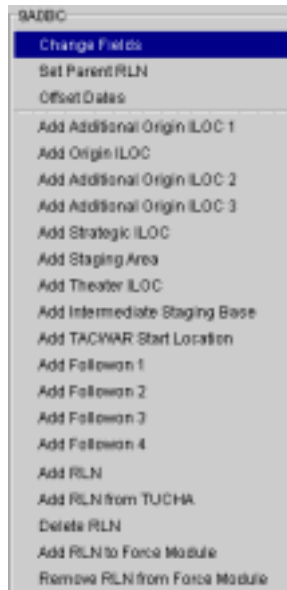

Figure 5.69 RLN Commands
4. Right-click the name of an RLN (e.g., 9A0BC). A menu of RLN commands opens (Figure 5.69), and the Change Fields command is highlighted.